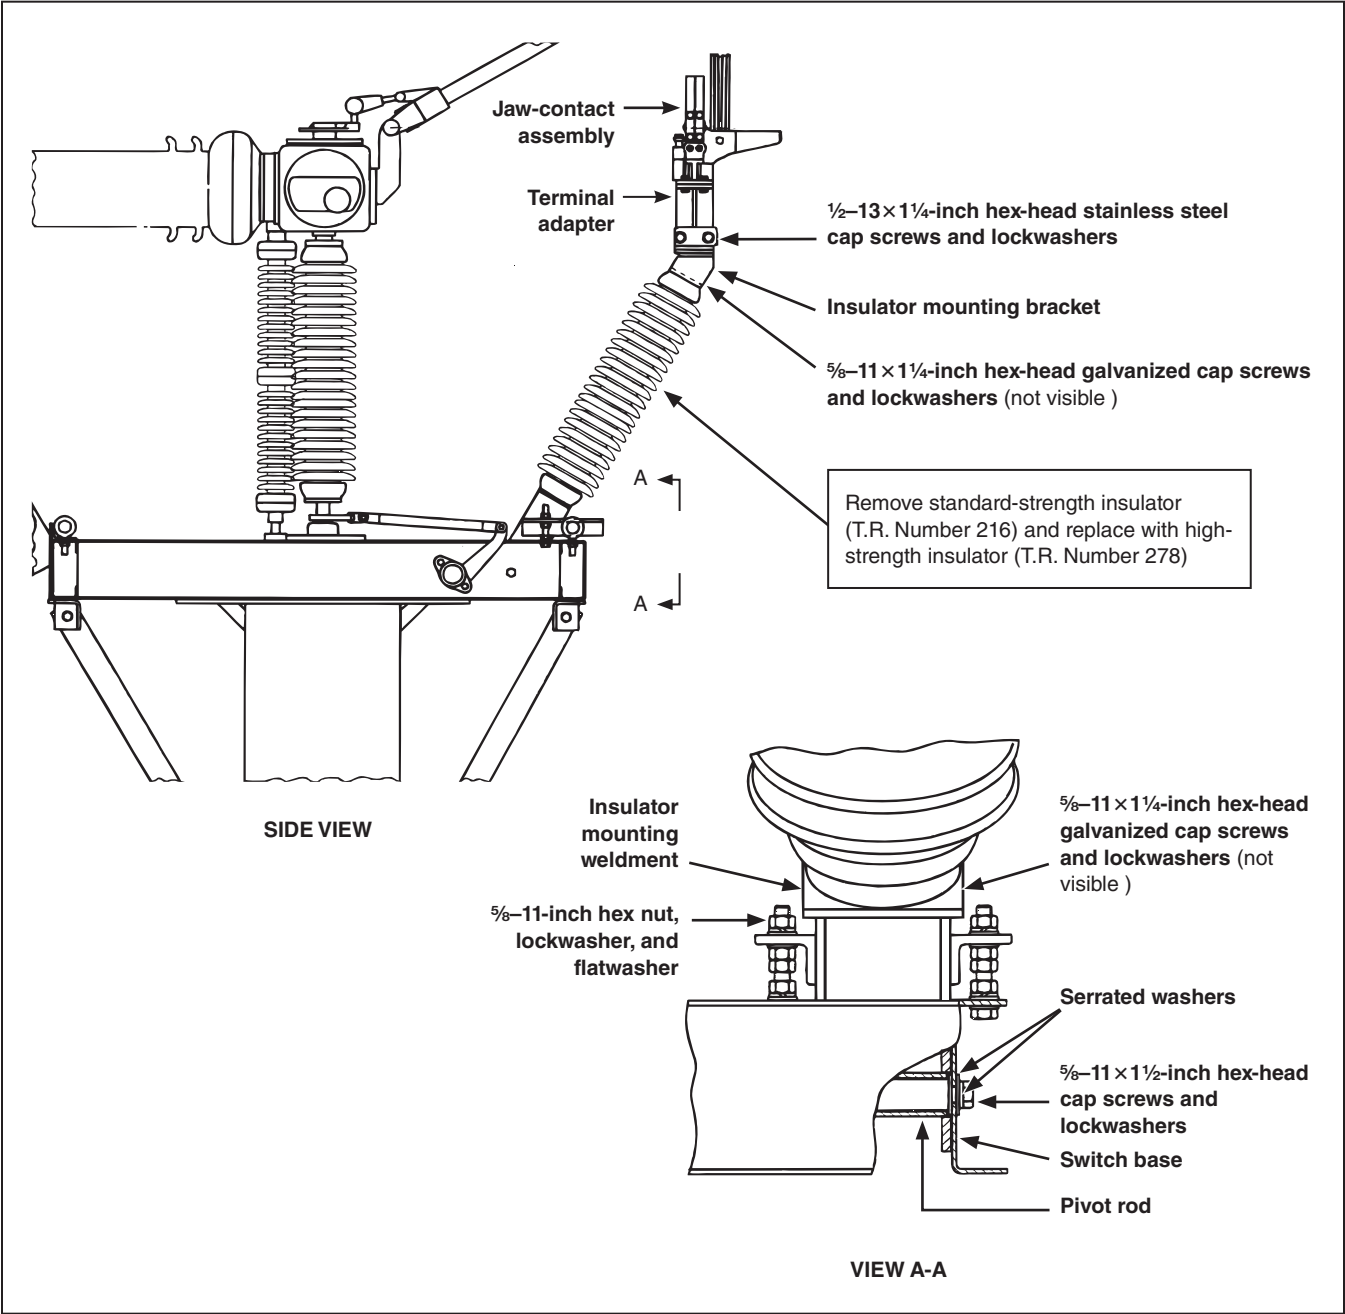

Figure 10. Installation of high-strength insulators.
- STEP 1.** Remove the four  $\frac{1}{2}$ -13  $\times$  1 $\frac{1}{4}$ -inch hex-head stainless steel cap screws and lockwashers securing the terminal adapter to the insulator mounting bracket. See Figure 10 on page 13, side view. Retain the terminal adapter and hardware.
- STEP 2.** Remove the two top  $\frac{5}{8}$ -11-inch hex nuts, lockwashers, and flat washers securing the insulator mounting weldment. See Figure 10 on page 13, View A-A. While supporting the insulator with an appropriate lifting device, remove the two  $\frac{5}{8}$ -11  $\times$  1 $\frac{1}{4}$ -inch hex-head cap screws, lockwashers, and four serrated washers securing the insulator mounting weldment to the switch base. Remove the insulator. Retain the hardware.
- STEP 3.** Remove the pivot rod from the insulator mounting weldment and install it in the replacement insulator mounting weldment. See Figure 10 on page 13, View A-A. Attach the replacement insulator mounting weldment and replacement insulator mounting bracket to the high-strength insulator using eight  $\frac{5}{8}$ -11  $\times$  1 $\frac{1}{4}$ -inch hex-head galvanized cap screws and lockwashers. Securely tighten the hardware.
- STEP 4.** Attach the high-strength insulator assembly to the switch base using two  $\frac{5}{8}$ -11  $\times$  1 $\frac{1}{2}$ -inch hex-head cap screws, lockwashers, and four serrated washers. See Figure 10 on page 13, View A-A. Secure the insulator mounting weldment with two  $\frac{5}{8}$ -11 hex nuts, lockwashers, and flat washers. Securely tighten the hardware.
- STEP 5.** Attach the terminal adapter to the insulator mounting bracket using four  $\frac{1}{2}$ -13  $\times$  1 $\frac{1}{4}$ -inch hex-head stainless steel cap screws and lockwashers. See Figure 10 on page 13, side view. Securely tighten the hardware.